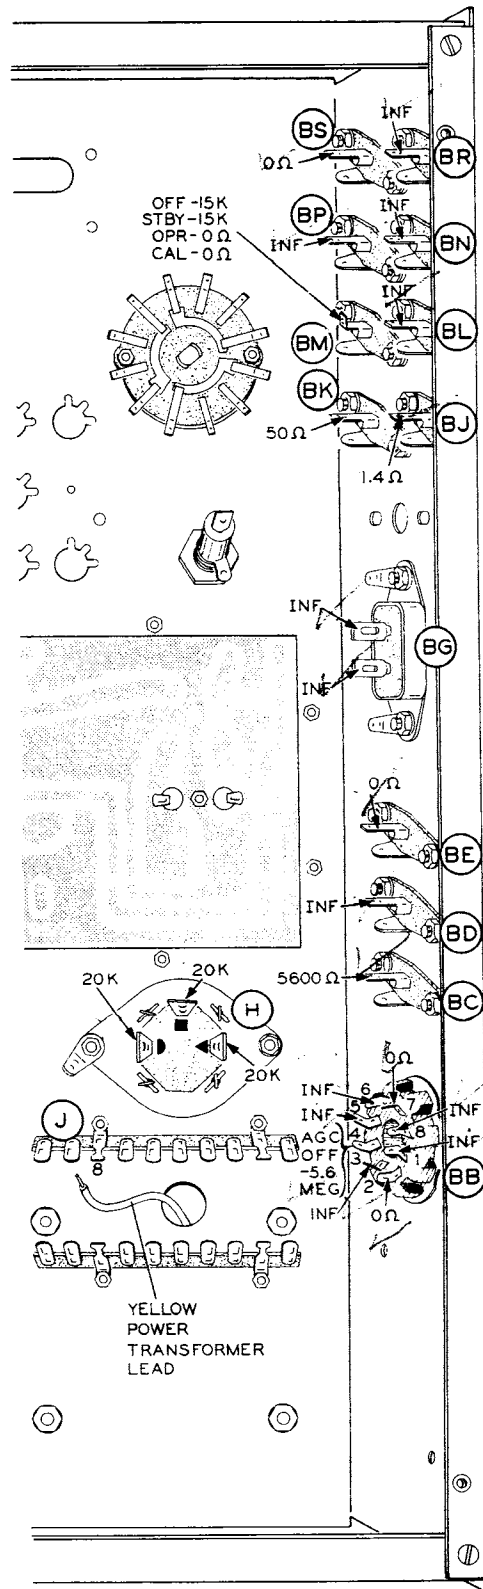

Figure 4
Refer to Figure 4 for the following steps.
- () Be sure the free end of the yellow power transformer lead that was not connected is not touching any part of the Receiver. Now measure the DC resistance from lug 3 of terminal strip J to chassis ground. See Figure 4. The reading should be infinite. If an infinite reading is obtained, connect the yellow power transformer lead to lug 8 of terminal strip J (S-2). If any resistance reading is obtained, look for a wiring error or short circuit in the filament string. Replace the tube in the LMO.
Measure the DC resistance from the points indicated on Figure 4 to chassis ground. Be sure to check the four resistances at phono socket BM with the Function switch in the position marked on Figure 4.